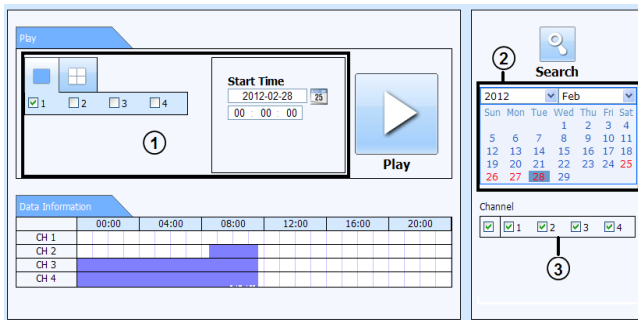

Fig 7-4 Time Search Interface
Step 1: Enter into Search→Time Search. Refer to Fig 7-4:
Step 2: The highlight date in the area② indicates recorded data. Select the date in area ② and record channels in area③.
Step 4: Set the data playing time and display mode in the area① as required.